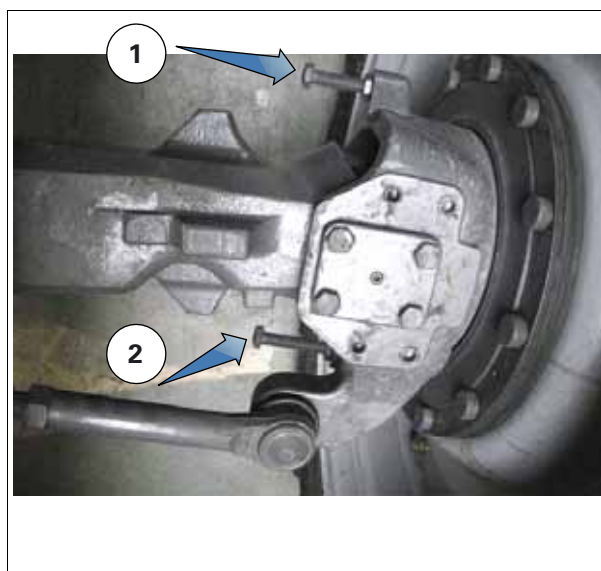

Fig. 7.
3. Start by adjusting the rear stop screw on the side that presents the greatest risk for the front wheel of contact with the immediate environment *fig. 7*, move the axle over the entire length until it touches the oscillation stop in order to adjust the stop screw while maintaining a minimum clearance of 40 mm between the tyre and the nearest point (e.g.: body/attachments).
5. Repeat the adjustment operations (3) and (4) to adjust the remaining stop screws.